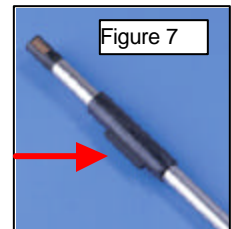

Figure 7
1. Line up the key lock feature on the tip cartridge with the notch on the front of the handpiece. See Figure 7.